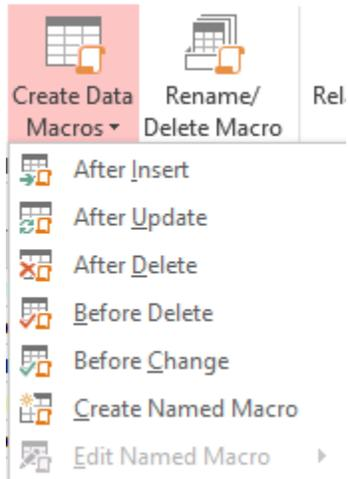
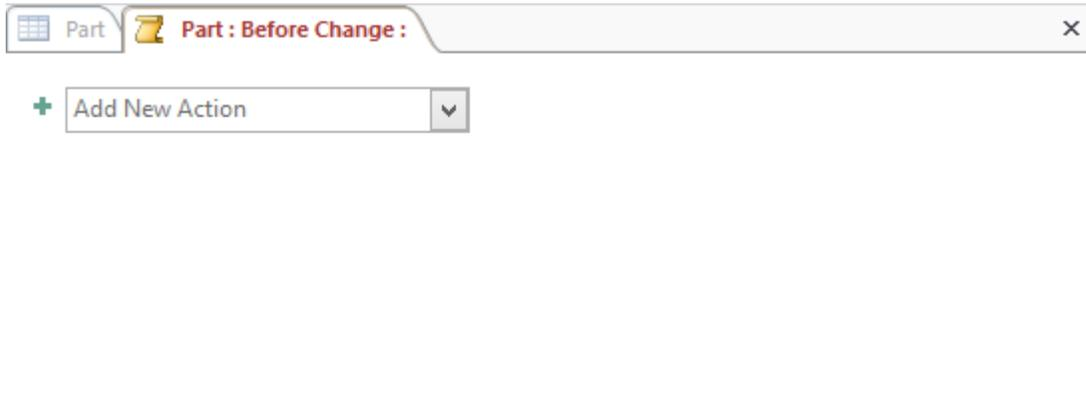

Figure 46: List of Events for Creating a Data Macro
Figure 47: Empty Tab for the Before Change Event
2. Select the *Before Change* Event: Select **Design** → **Create Data Macros** → **Before Change** in the Field, Record, & Table Events group of the dynamic Table Tools tab group (Figure 46). Before selecting the event, you can hold the mouse over the **Before Change** item to reveal its event tip. After selecting the item, a new tab is created for the *Before Change* event (Figure 47) with an empty combo box for specifying a new action.